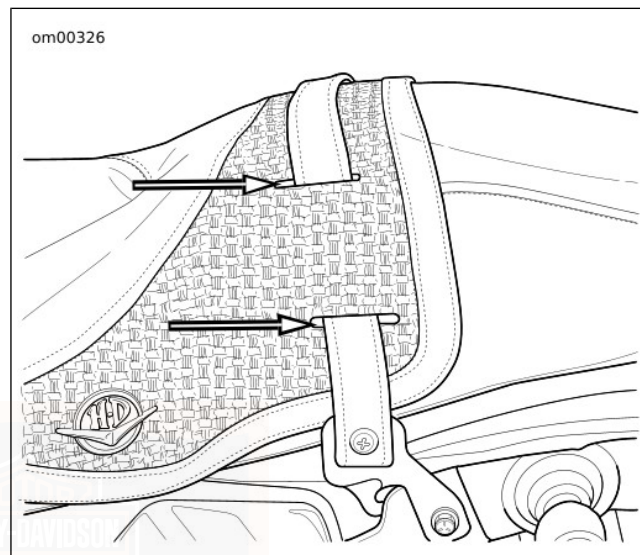

Figure 108. Strap Slots: FLHRC
4. **FLHRC:** See Figure 108. Pull strap through slots in seat to remove.
4. **FLHRC:** See Figure 108. Install strap through slots in seat.